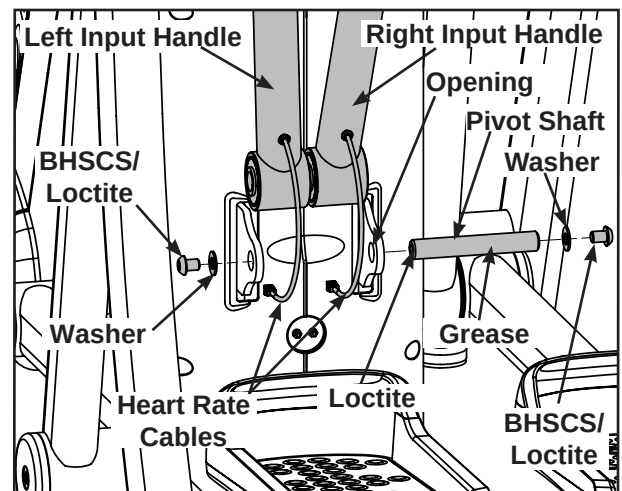

Figure 3
- D. Unplug the heart rate cable. See Figure 3.
- E. Using two 7/32" Allen wrenches remove the BHSCS and washer from the pivot shaft. See Figure 3.
- F. Slide the pivot shaft through main frame opening to remove input handle. See Figure 3.
See Figure 3.
- B. Position the new input handle vertically and align with the main frame opening. See Figure 3.
- C. Push pivot shaft through handle opening and main frame opening. See Figure 3.
- D. Place a drop of loctite (C) on the BHSCS and another drop inside the pivot shaft where the BHSCS will be tighten into.
- E. Using both 7/32" Allen wrenches, install the BHSCS/loctite and washer as shown in Figure 3. **NOTE:** *Handles will wobble if not securely tightened.*